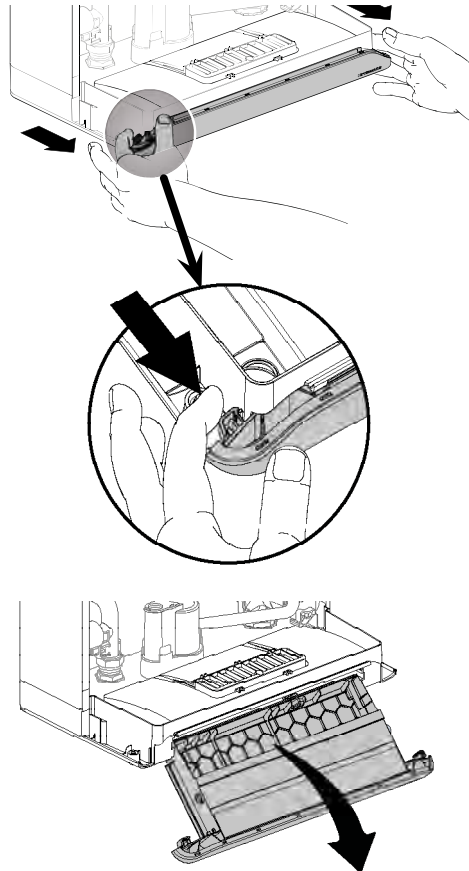

Figure 42: Pulling out the tray
1. Pull out the controller as shown in Figure 42.